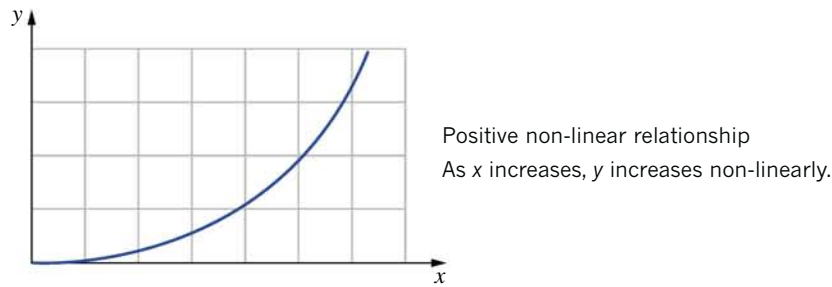

FIGURE 21.3.2 Variables that change in response to each other in a non-linear way.
- Variables that change non-linearly in proportion to each other produce a curved trend line, as shown in Figure 21.3.2.